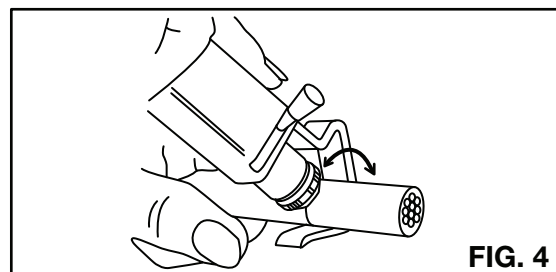

FIG. 4
3. Rotate stripping tool completely around the cable to cut the insulation; then, repeat rotation in reverse direction, see Fig. 4.